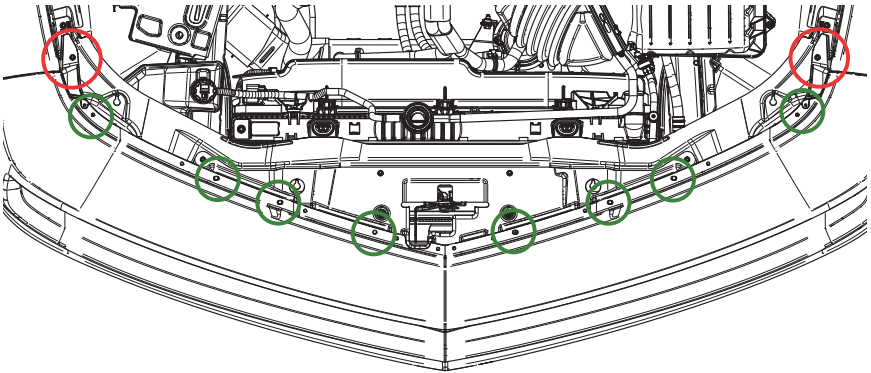

Figure 1 - Removing the Pop-Clips and Screws
4. Use a plastic prying tool to remove the plastic pop-clips pinning the bumper cover to the radiator support, circled **green** in Figure 1.
5. Use a 10 mm tool to remove the screws at each corner under the hood, circled **red** in Figure 1.